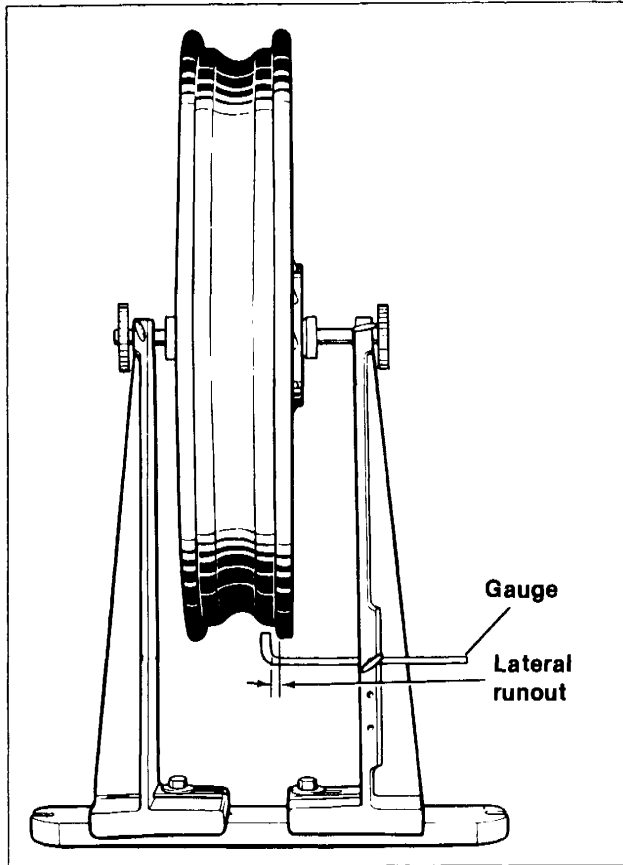

Figure 2-24. Checking Rim Lateral Runout
1. See Figure 2-24. Install arbor in the wheel hub and place wheel in the truing stand. To check rim lateral runout place a gauge rod or dial indicator